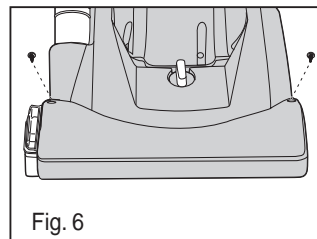

Fig. 6
- 8) Replace 2 screws (Fig 6).